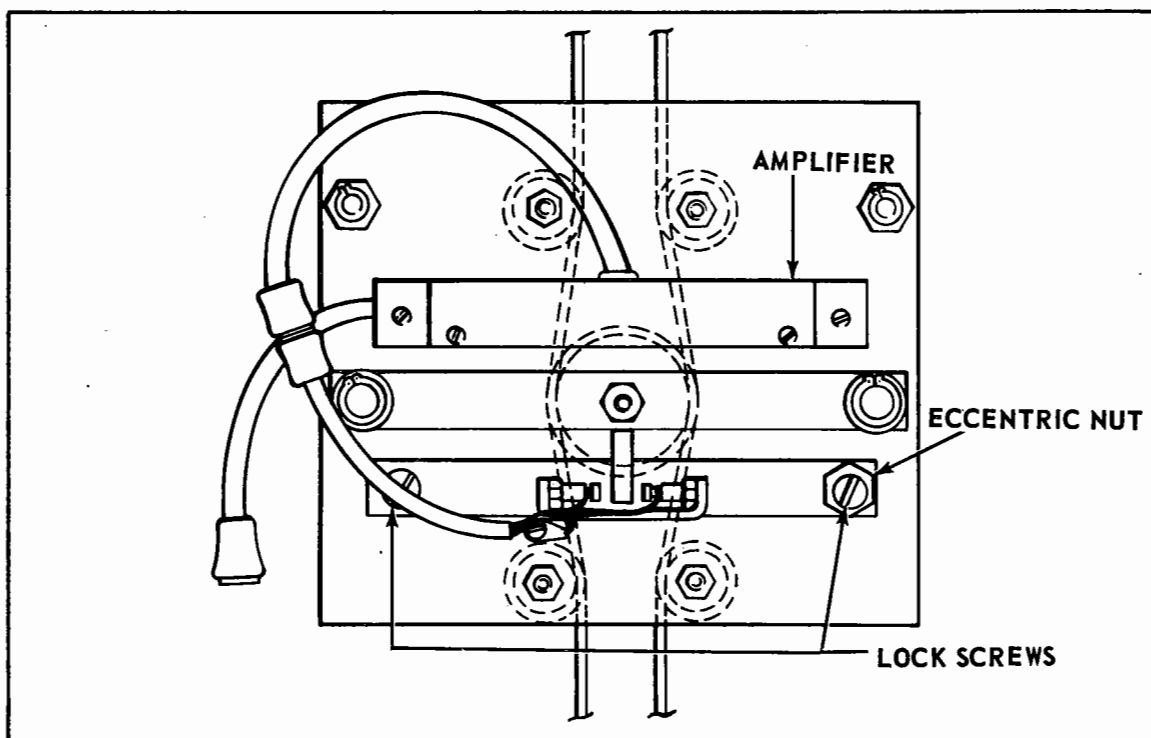

Figure 3-8. Plate Sensor with Amplifier
3-22. TRIM SENSOR CENTERING PROCEDURES AND TRIM AMPLIFIER DELAY CIRCUIT CHECK IN P.E.T. -1 AND P.E.T. -2 SYSTEMS. The two types of trim sensors used in Piper airplanes with the P.E.T. -1 and P.E.T. -2 Automatic Pitch Trim Systems are shown in illustration form in this section of the manual, (Refer to Figure 3-8 and 3-9). When making trim sensor centering adjustments, it is very important to ascertain the type of sensor being adjusted and to follow the detailed instructions for that particular type sensor to avoid damage to the test equipment and the sensor. The procedure used to check for proper functioning of the trim amplifier delay circuit is incorporated in the trim sensor centering procedure instructions. This is done so both tests can be accomplished with the initial hook up of test equipment.
c. Centering procedure for plate type trim sensor with amplifier. (Refer to Figure 3-8.)
- (a) Loosen both screws of the contact support bar. (Refer to Figure 3-8.)